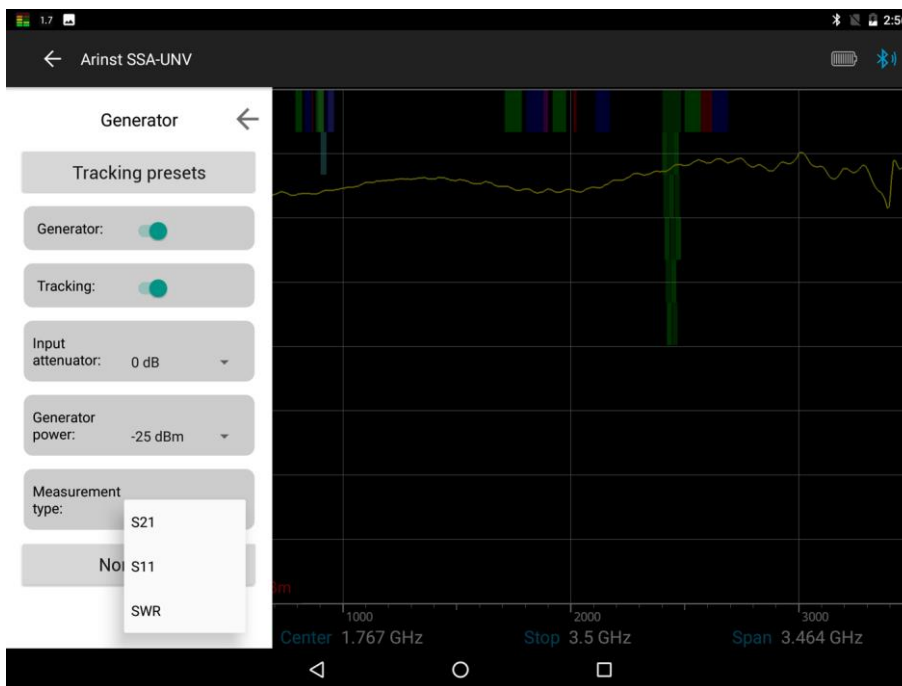

Figure 72 – Selection of the reflection coefficient measurement mode
9.3.3. Select **S11** mode from the **Measurement** type selection menu, as shown in figure 72.